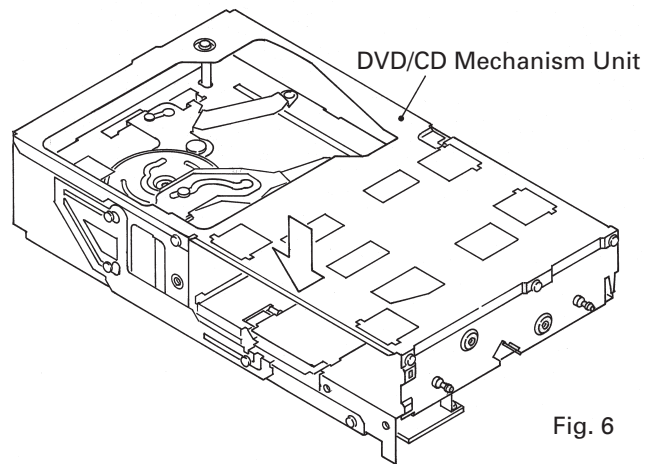

Fig. 6
- 1) Since the upper surface of the arrowed magazine slot in the DVD/CD mechanism unit can be deformed comparatively easily, do not hold this section when making servicing work. (Refer to Fig. 6)